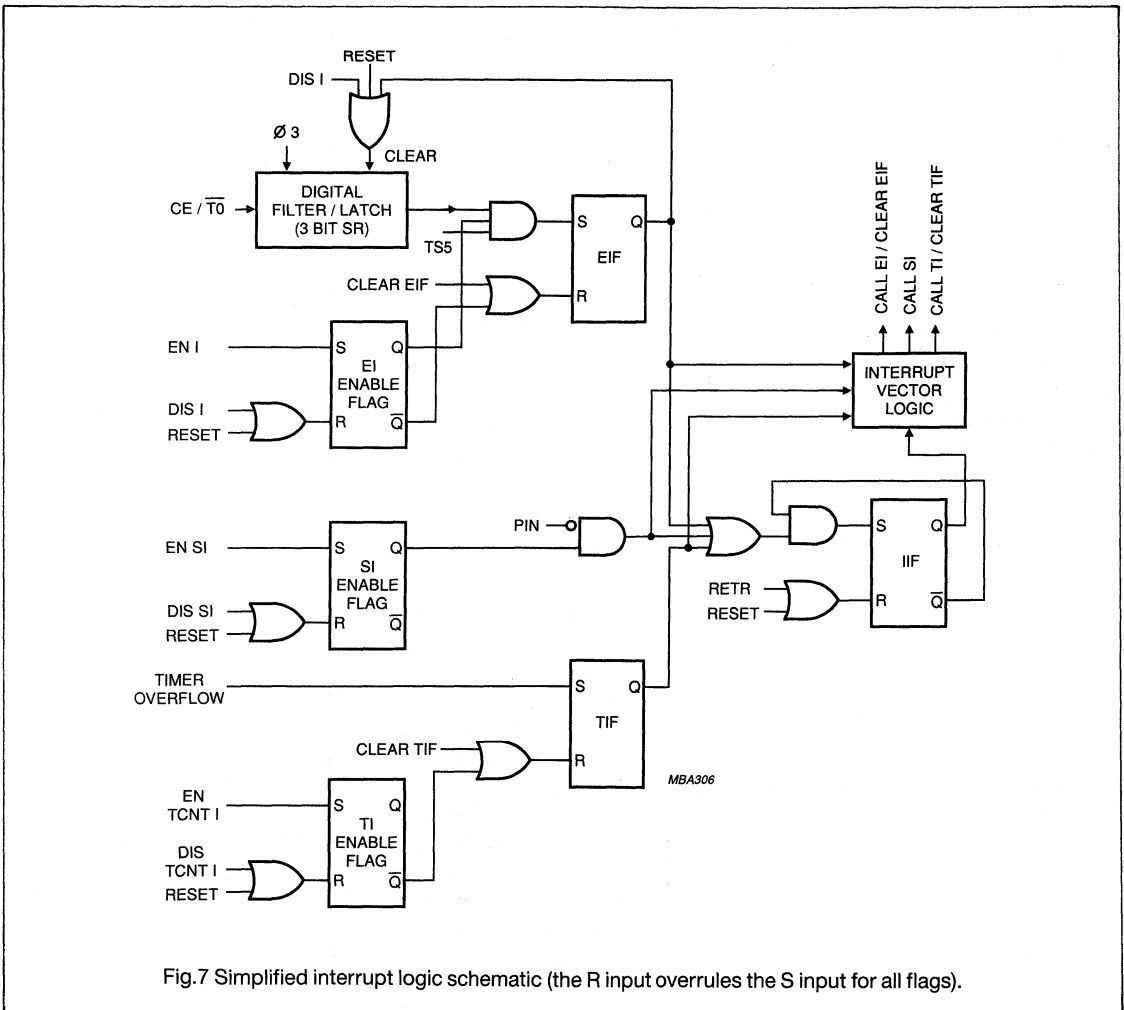
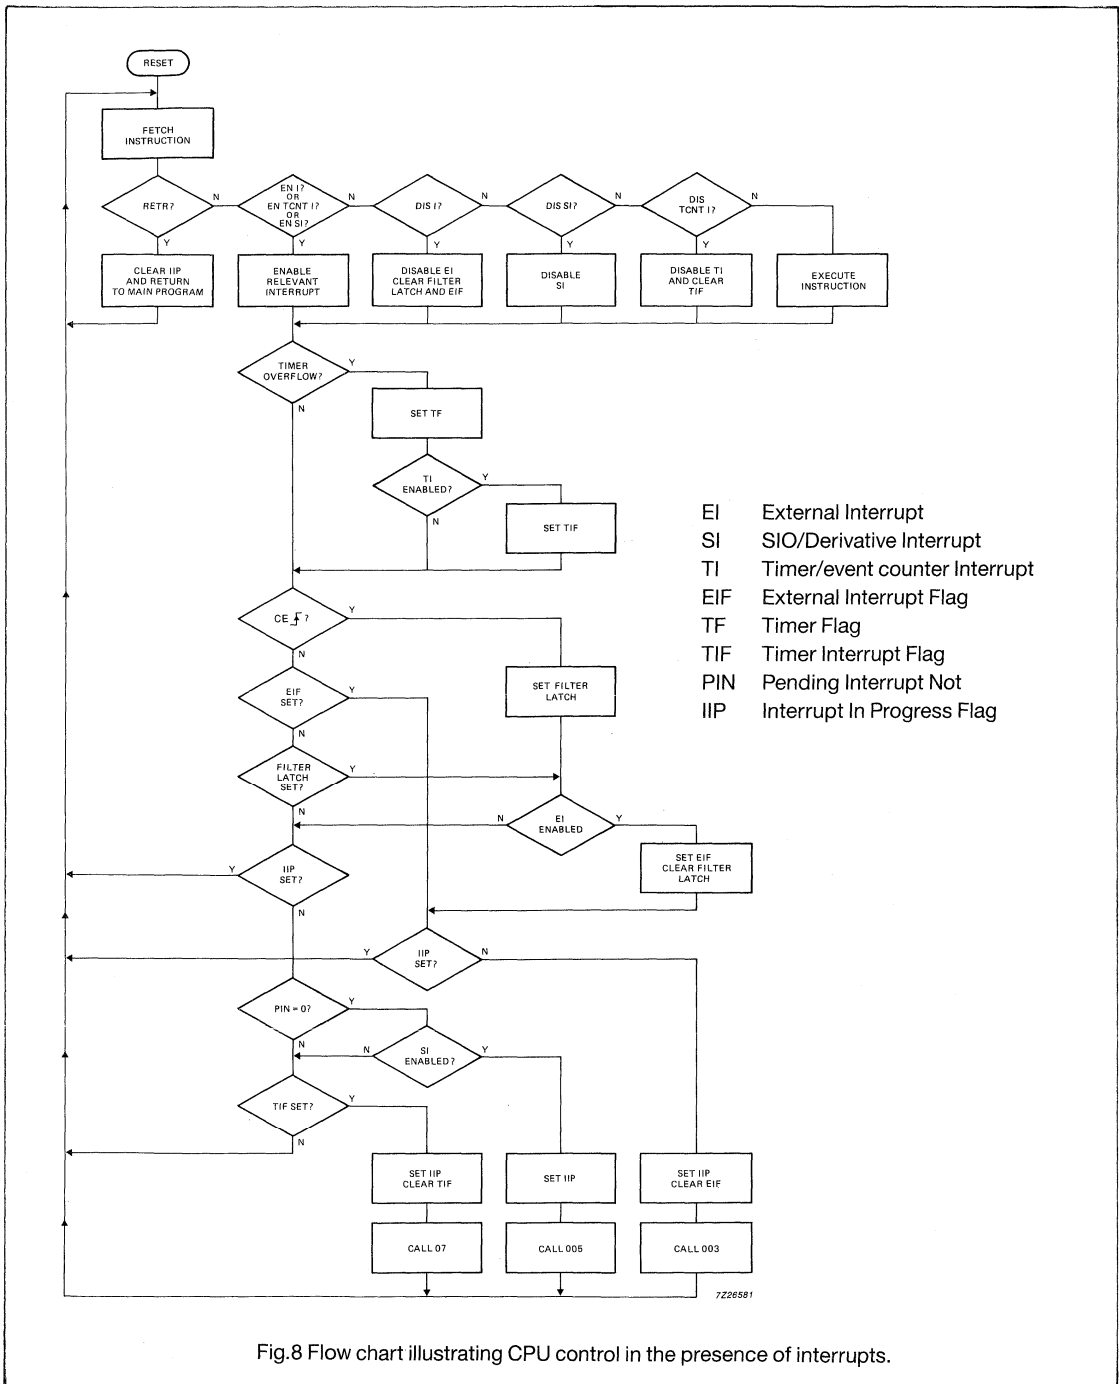

Fig.7 Simplified interrupt logic schematic (the R input overrules the S input for all flags).
Fig.8 Flow chart illustrating CPU control in the presence of interrupts.
An interrupt request will only be serviced if the corresponding interrupt enable flag is set (Fig.7). When a request is serviced, the contents of the program counter, and bits 4, 6 and 7 of the program status word are saved on the program counter stack. The program counter is loaded with the appropriate interrupt vector which points
- Subroutines and nested subroutines called within an interrupt routine must all end with RET since RETR clears the IIP (interrupt in progress) flag (Fig.7 and Fig.8). Further pending interrupts would then interfere with the interrupt routine in progress.
A LOW-TO-HIGH transition on the CE/ $\overline{T0}$  pin is latched in the digital filter latch if the HIGH state exceeds 7 clock periods after a LOW state of more than 4 clock periods. If the external interrupt is enabled, then the external interrupt flag (EIF) will also be asserted, constituting a valid external interrupt request. As soon as the IIP is clear, indicating that no interrupt routine is in progress, the external interrupt is invoked by a forced CALL to location 3. The EIF flag is simultaneously cleared (Fig.7 and Fig.8). The interrupt routine may acknowledge the interrupt via port lines.
When the timer/event counter interrupt is enabled, a timer/event counter overflow sets the Timer Interrupt Flag (TIF). As soon as the Interrupt in Progress (IIP) flag is clear (indicating that no interrupt routine is in progress), the timer/event counter interrupt routine is invoked by a forced CALL to program memory location 7, and the TIF flag is simultaneously cleared (Fig.7 and Fig.8).